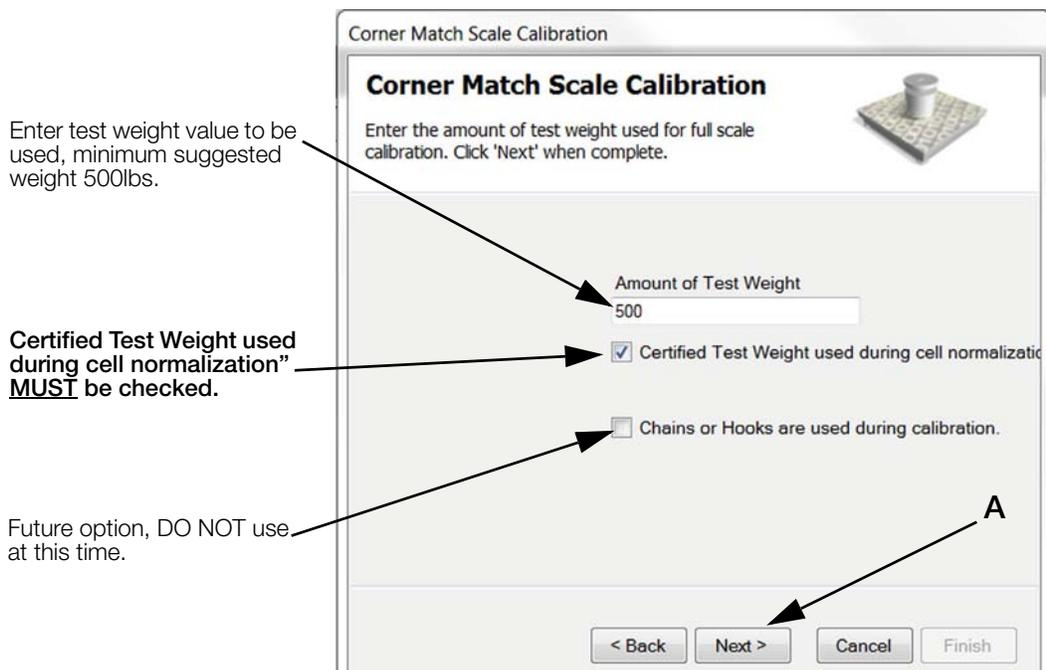

Figure 4-23. Enter Test Weight Value
3. Enter test weight value to be used and press *Next* (Fig 4-23 A).